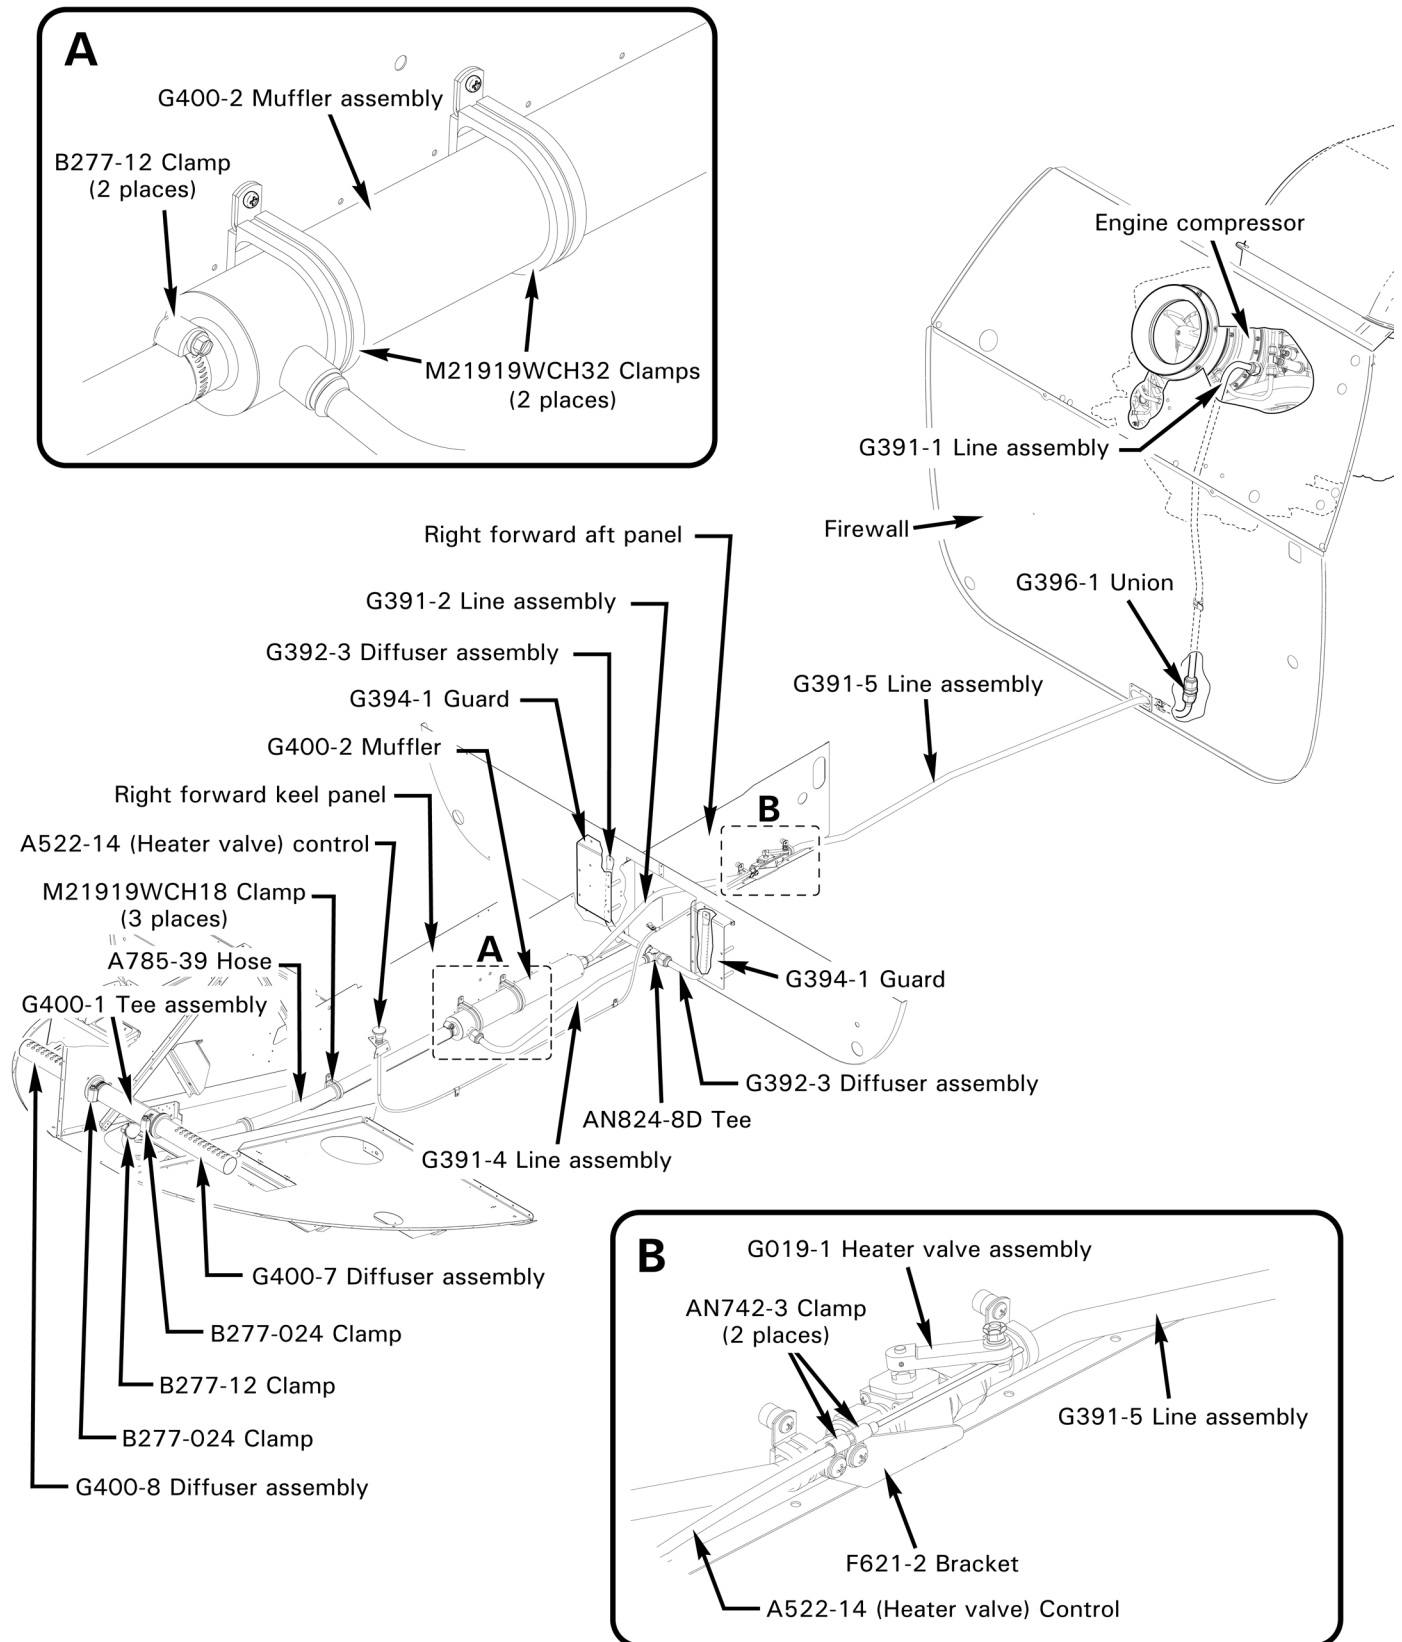

FIGURE 21-3 CABIN HEAT
Refer to R66 Illustrated Parts Catalog (IPC) Figure 21-3.
2. Refer to Figure 21-3. Remove hardware securing A522-14 (heater valve) control inner wire to G019-1 (heater) valve assembly arm.
1. Refer to Figure 21-3. Remove caps and plugs, install G019-1 (heater) valve assembly and connect G391-2 and G391-5 line assembly B-nuts to valve assembly fittings. Hand-tighten B-nuts at valve assembly, G400-2 muffler assembly, and G396-1 union, but do not torque.
2. Refer to Figure 21-3. Remove palnut and loosen nut securing A462-4 fitting and A522-14 (heater valve) control inner wire to G019-1 (heater) valve assembly arm.
2. Refer to Figure 21-3. Loosen B277-12 clamp and pull A785-39 hose off of G400-2 muffler assembly. Install temporary covers on muffler and hose openings.
1. Refer to Figure 21-3. As required, install MS21919WCH32 clamps on G400-2 muffler assembly. Install hardware securing clamps and muffler to forward right keel panel. Verify security.
1. Refer to Figure 21-3. Remove screws attaching upper console to lower console and hinge console aft. Protect instrument face with foam support or equivalent.
1. Refer to Figure 21-3. As required, install MS21919WCH16 and (two) B277-24 clamps on G400-1 tee assembly. Install tee with clamps, and install hardware securing MS21919WCH16 clamp and tee to angle.
2. Refer to Figure 21-3. Hinge aft right and left seats forward. Remove hardware securing G394-1 guards and G392-3 diffuser assemblies to aft seat assemblies and remove guards. Hinge seats back.
1. Refer to Figure 21-3. As required, remove caps, install AN824-8D tee, and connect G391-4 line assembly B-nut, but do not torque.